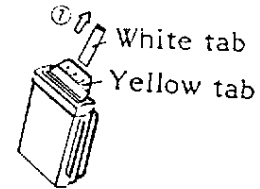

Fig. 9-4
(3) Development
- a. After taking a picture, pull the white tab straight out (Fig. 9-4).